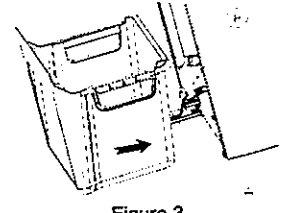

Figure 3
- 3- Place the water drain cover (A) beneath the drain channel (B) as shown on Figure 3.
- 4- The water will run down the drain channel (B) into the compartment drawer.